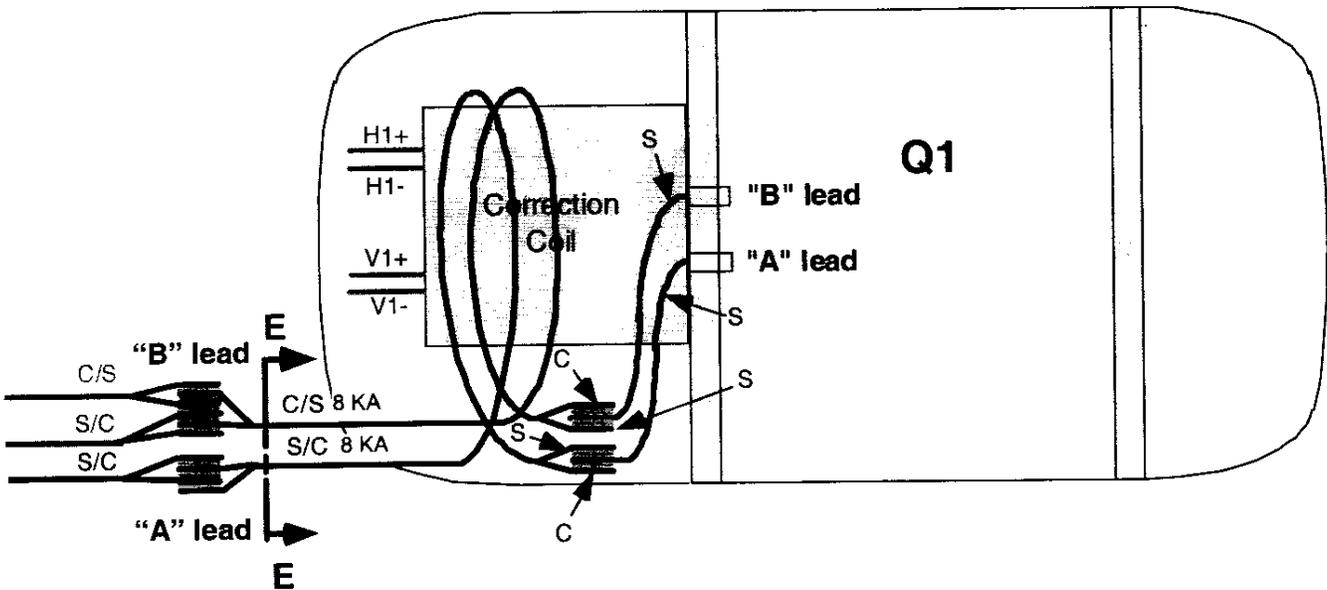

**Figure 7.1-A**
7.1 Separate, identify, and label the Non-IP Magnet End Corrector leads as per (ME-369894) and figure 7.1-A below.